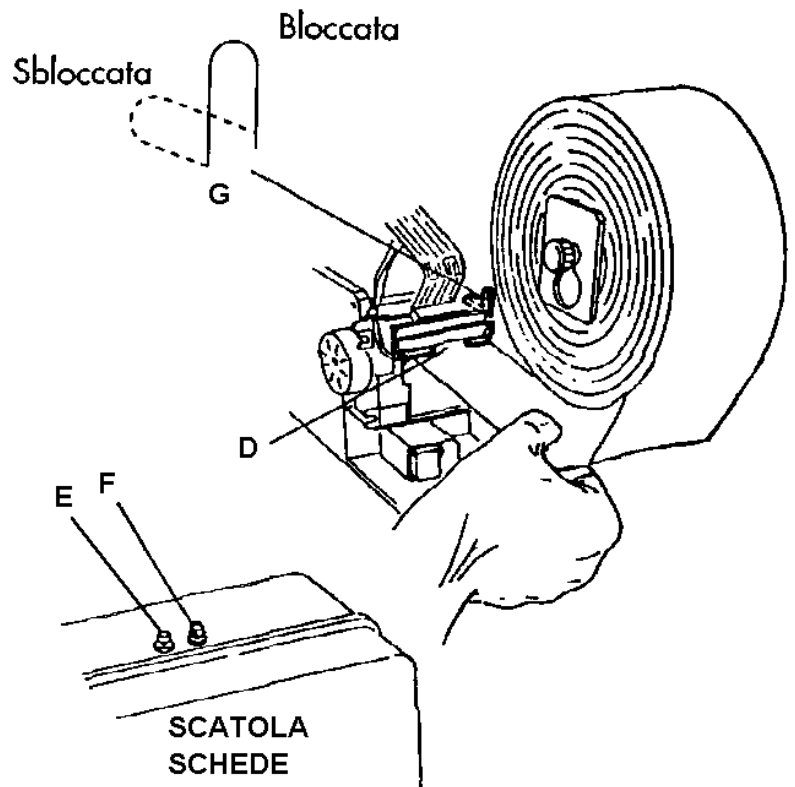

Figure 5 - Inserting paper in printer
1. remove the paper from the thermosensitive paper printer, letting it slide under the two guides **D** (Figure 5). To do this, lower lever **G**, on the right of the printer.
5. insert the end of the thermosensitive paper roll in the printer, letting it slide under the two guides **D** (Figure 5) and lift up lever **G**;